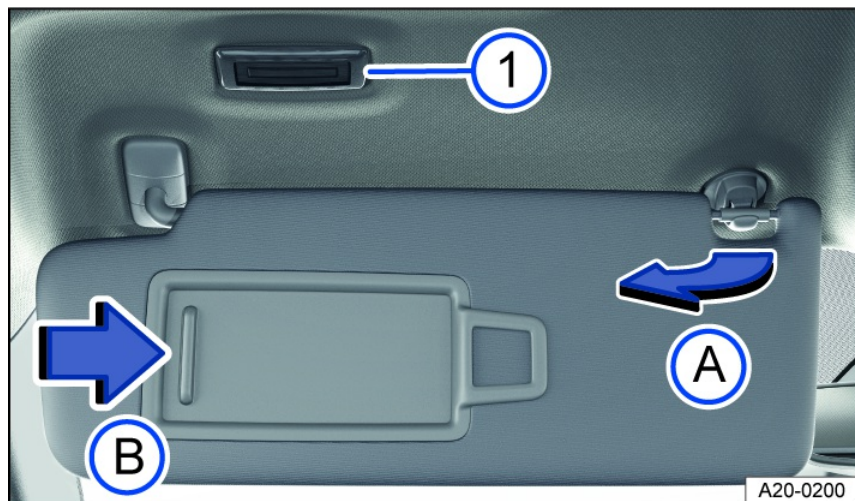

Fig. 87 In the front of the headliner: sun visor.
- Remove from the holder and tilt toward the door *fig. 87*.
When the sun visor is folded down, there is a vanity mirror located behind a cover. The lights *fig. 87* turn on when the cover *fig. 87* slides open.